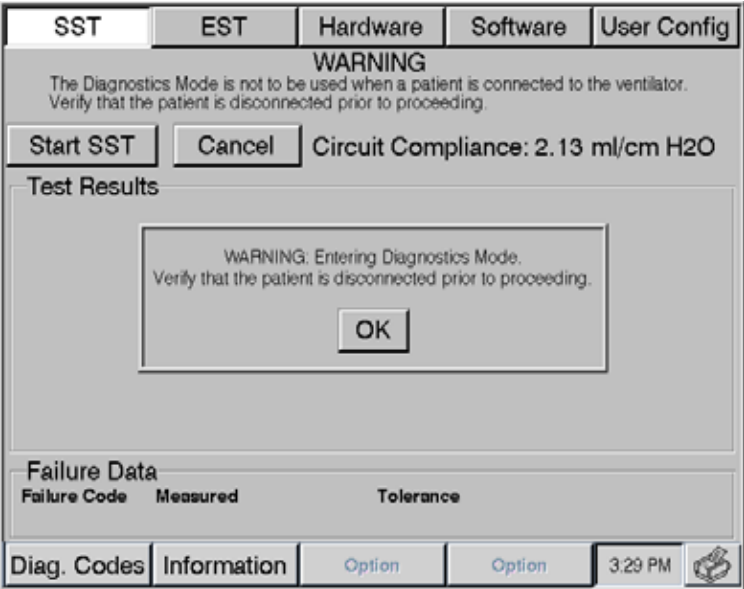

Figure 11-1: Entering Diagnostic Mode
To enter Diagnostic Mode, hold down the ALARM RESET and 100% O₂ keys for approximately 5 seconds while you turn on the ventilator. A message appears on the ventilator prompting you to confirm that the patient is disconnected before entering Diagnostic Mode (Figure 11-1). Press OK to enter Diagnostic Mode.
2. Press the SST button (Figure 11-1) on the diagnostic screen.
3. Press the EST button on the diagnostic screen (Figure 11-1).